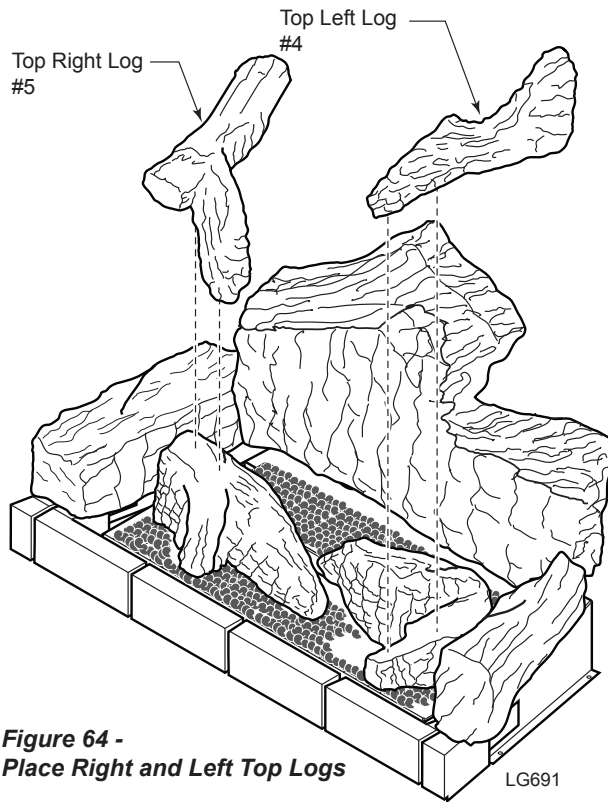

Figure 64 - Place Right and Left Top Logs
9. Place right top log (#5) on top of right mid log and top of bottom right log. *Figure 64*
10. Place top left log (#4) on top of left mid log and top of bottom left log. *Figure 64*